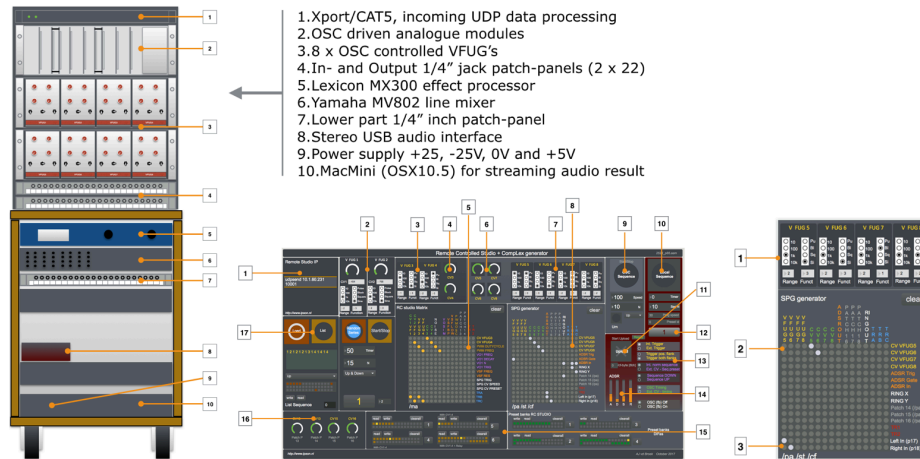

Figure 1. On the left the whole setup, in the middle the Max/Msp patch and on the right the first test example.
6. First start with a simple test to check if the connections work. Check the right-side matrix example in figure 1.